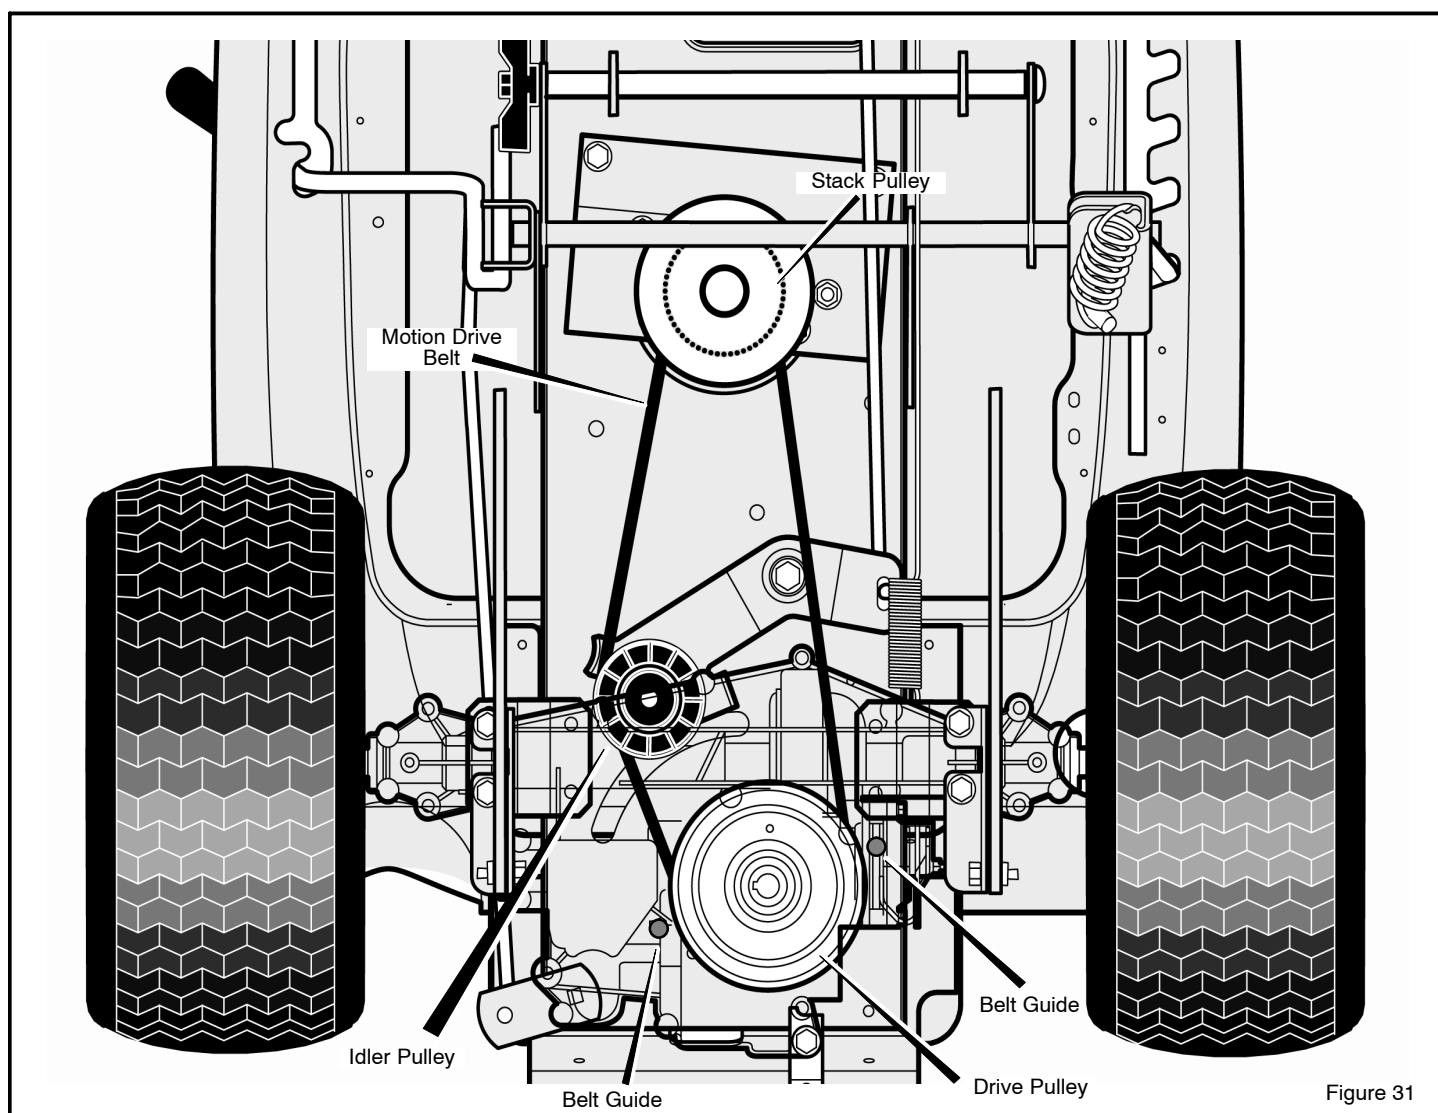

Figure 31
3. Remove the **idler pulley** (Figure 31).
1. Slide the **motion drive belt** between the **stack pulley** and the **belt guides** (Figure 31). Install the **motion drive belt** on the